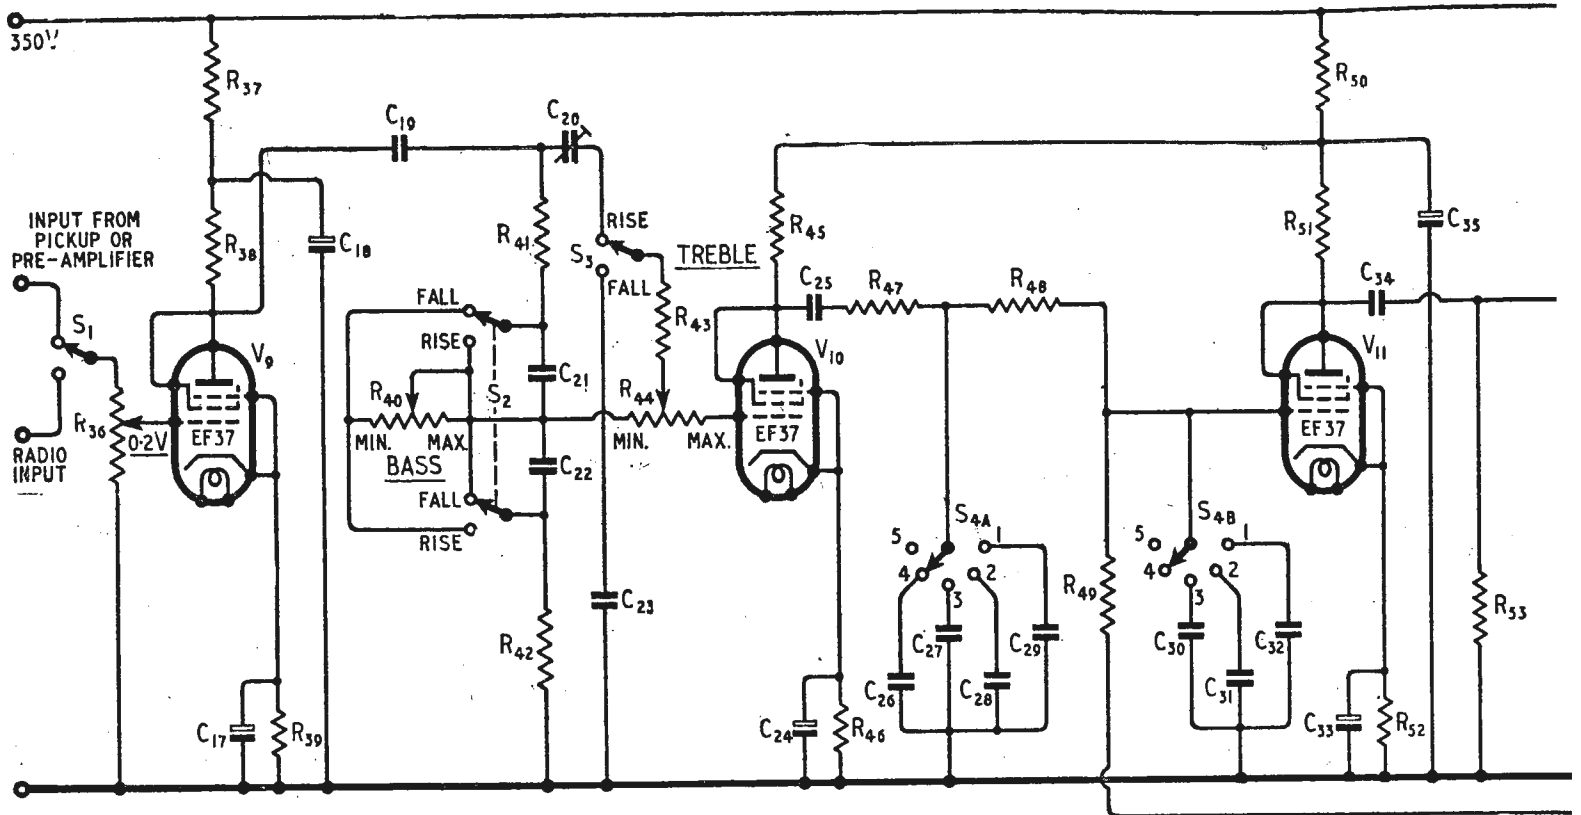

Fig. 19. Complete tone compensation and filter unit. The input and output voltages underlined are peak values for full output from the main amplifier.
**Complete Variable Compensation Unit.**—It is now necessary to connect together the circuits just described to form a flexible tone compensation unit. This must be done in such a manner that each works well within its signal-handling capacity and does not influence the others adversely. Fig. 19 on the following pages shows the final arrangement.
**Gain.**—The figures underlined in Fig. 19 are the peak signal voltages necessary to give maximum output at 1,000 c/s when the pre-amplifier is used in conjunction with the High Quality Amplifier.
List of Components for Fig. 19.